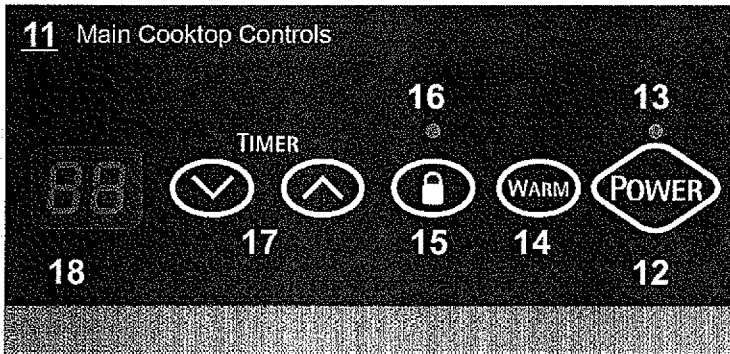

Fig 2.
11. Main Cooktop Controls (See Fig 2).